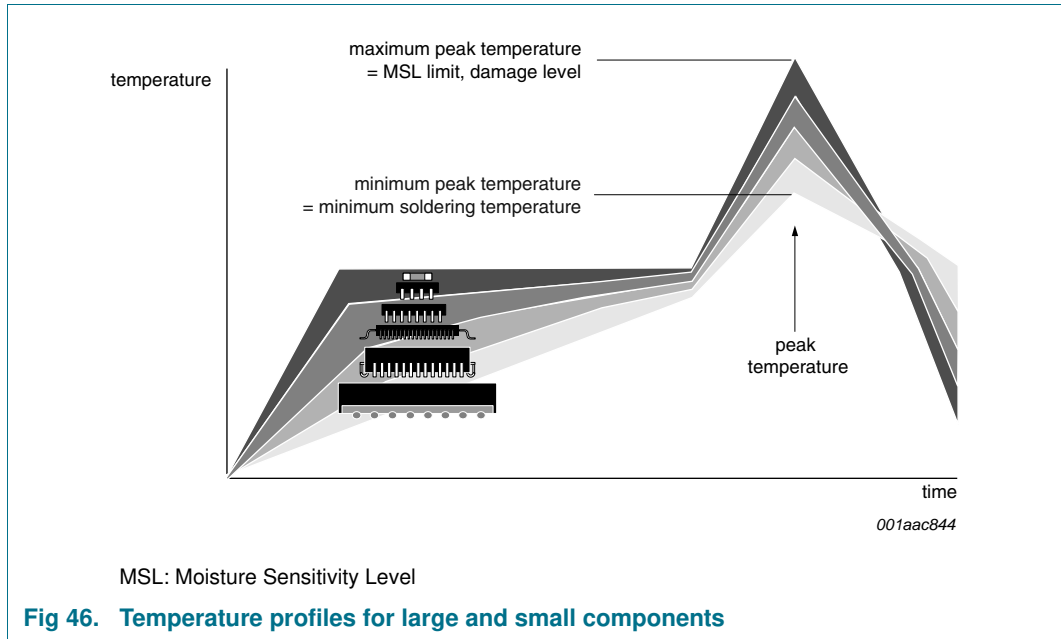

Fig 46. Temperature profiles for large and small components
- Lead-free versus SnPb soldering; note that a lead-free reflow process usually leads to higher minimum peak temperatures (see Figure 46) than a SnPb process, thus reducing the process window
Studies have shown that small packages reach higher temperatures during reflow soldering, see Figure 46.